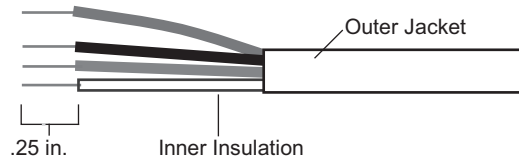

Fig. 12 – Rnet Cable Wire
2. Strip about 1/4 in. of the inner insulation from each wire (see Fig. 12).